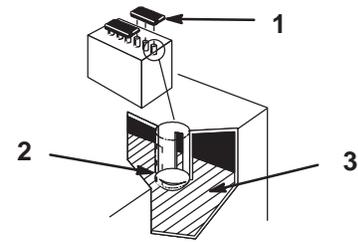

Figure 28
1. Open covers to see into the cells. The electrolyte must be up to the lower part of the tube (Fig. 28).
Important Do not allow the electrolyte to get below the plates. (Fig. 28).
2. Lift off the filler caps (Fig. 28).
3. Slowly pour distilled water into each battery cell until the level is up to the lower part of the tube (Fig. 28).